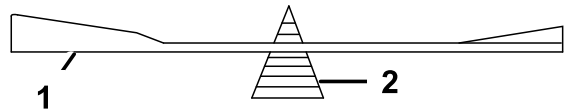

Figure 55
- Check the balance of the blade by putting it on a blade balancer (Figure 55).